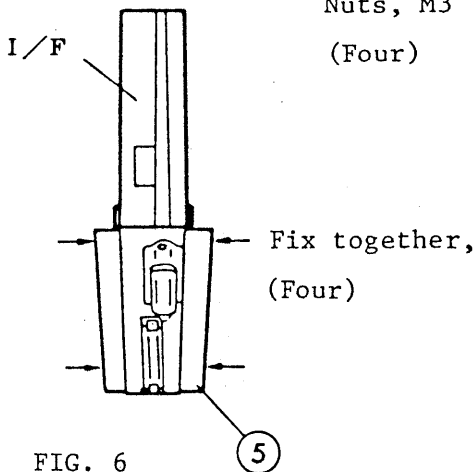

FIG. 6
- 3) Fix I/F angle (5) to the interface. (See Figure 6)